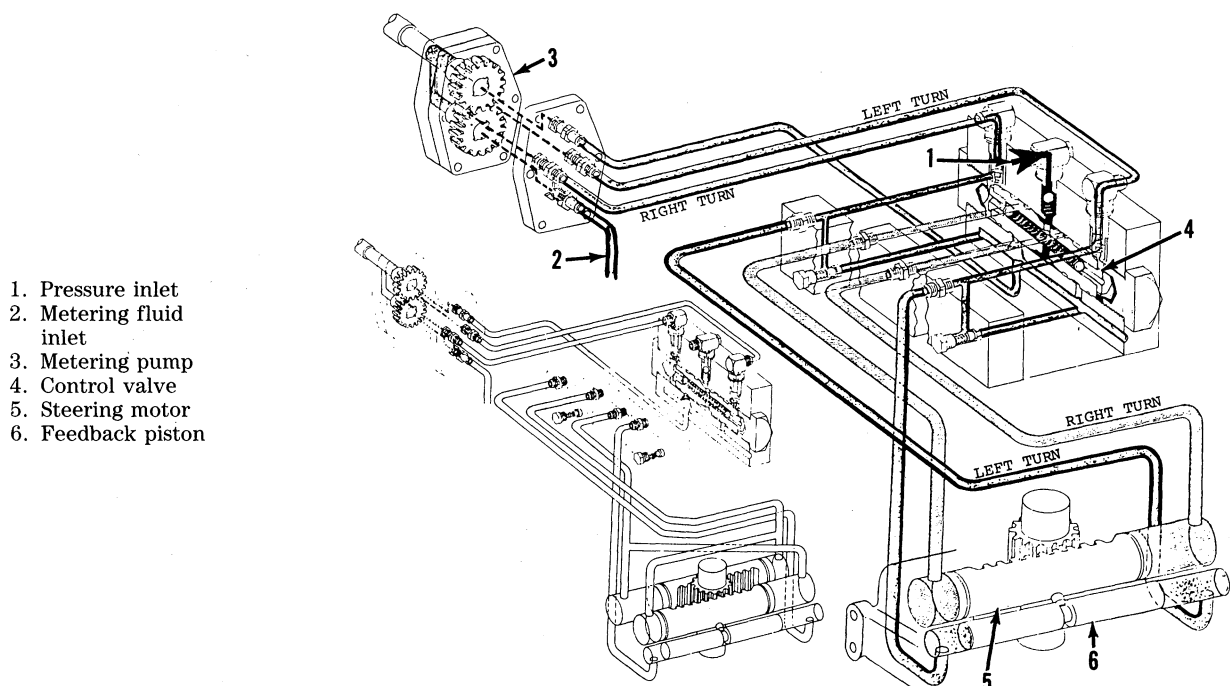

Fig. 32—Schematic view of power steering system. The dual steering motor system shown at lower left is used on 4650 and 4850 models.
22. The power steering system consists of a metering pump (3—Fig. 32), a control valve assembly (4) and a steering motor assembly (5). Some tractors equipped with mechanical front-wheel drive (MFWD) also use external steering assist cylinders and use additional relief valves in high pressure and feedback circuits of the steering valve. No mechanical linkage exists between the steering wheel and front axle; however, steering can be manually accomplished by hydraulic pressure without normal tractor hydraulic pressure. The power steering system, in normal operation, uses pressure oil from the main hydraulic system pump to turn the front wheels.
The metering pump (3—Fig. 32) is located at the lower end of the steering wheel shaft. The oil in the metering circuit is trapped. Turning the steering wheel and metering pump gears forces the oil trapped in the metering circuit to apply pressure to